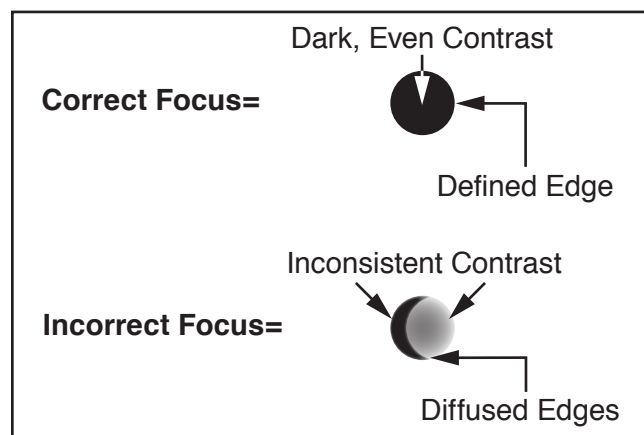

Figure 116. Focal point alignment examples.
31. Close top loading door and verify primary Mirror #3 and focal point alignment by pressing Pulse button on control panel. Compare results with **Figure 116**.